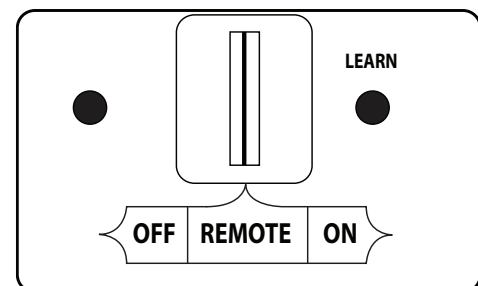

Fig. 25-2 Remote receiver detail (REMOTE)
1. Ensure the pilot is burning. Then locate the 3-position switch on the remote receiver (see Fig. 25-2), and slide the switch to the **REMOTE** position.